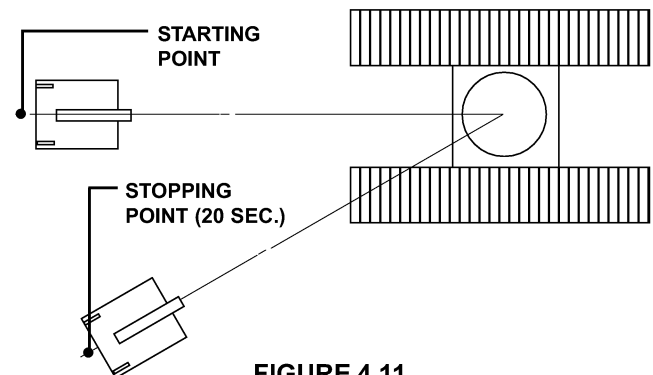

FIGURE 4.11
6. Measure the distance the swing drifted, down grade, while sitting. Record the distance. See Figure 4.11.